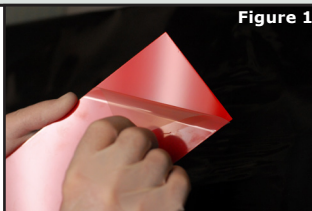

Figure 1
- 2** Remove and discard the translucent protective film cover from the cliché. (Figure 1)